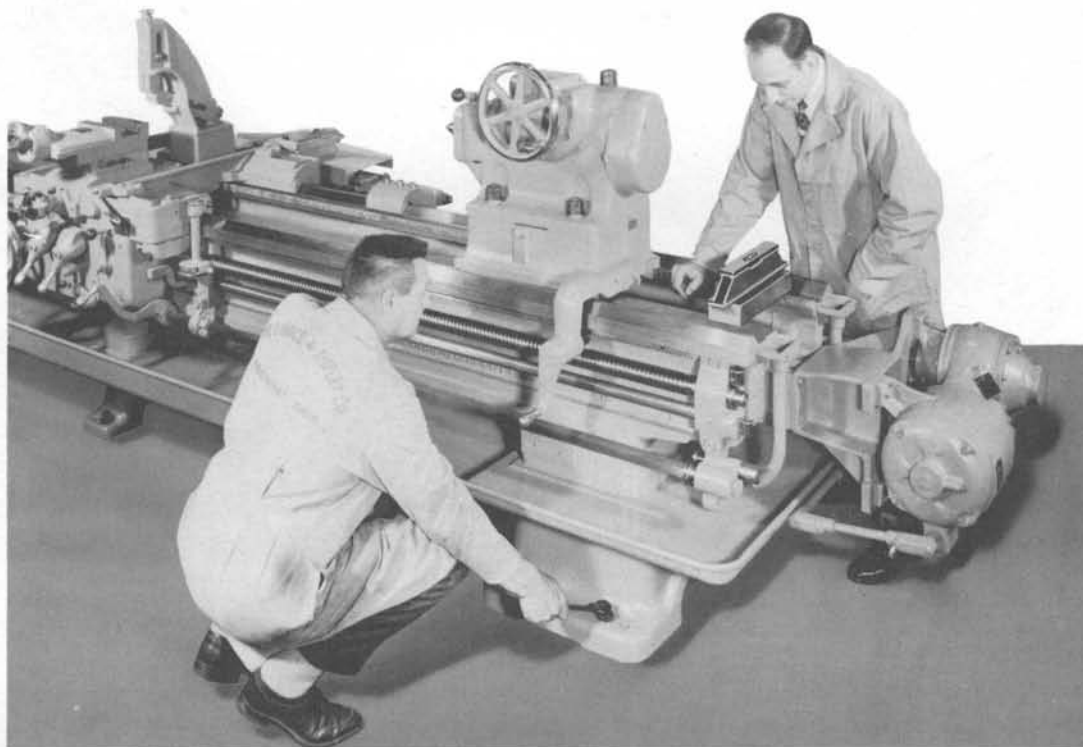

Figure 4
- (3) Move the level and parallel bar to the tailstock end and again adjust the leveling screws until the level reading is "Zero" (See Figure 4).